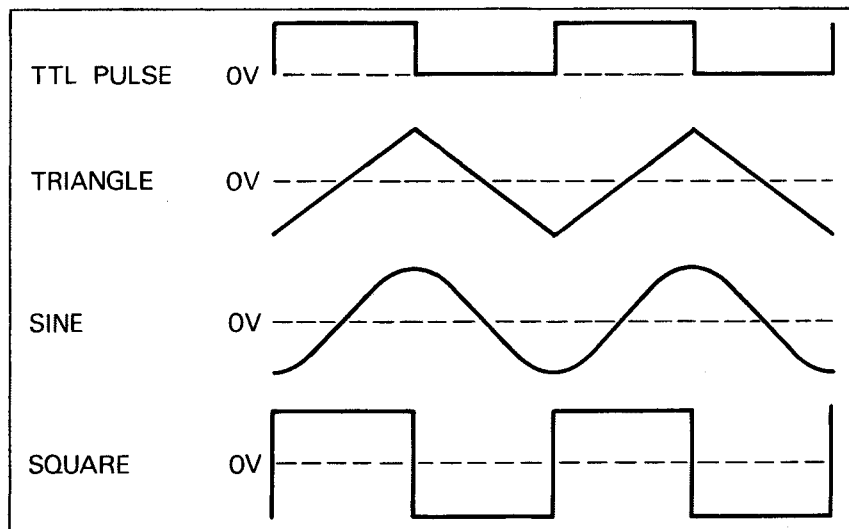

Fig. 3. Output waveform and phase relationships.
1. With the unit plugged into a power source, depress the **POWER** button (1).
2. Select the frequency range desired by depressing the appropriate **RANGE** switch. The frequency range obtained as the **FREQUENCY** dial (6) is varied will be from one-tenth the indicated **RANGE** value to 10 times this value. For example, select the 10 K range. When the **FREQUENCY** dial is at .1, the output frequency is 1 KHz; when at 1, it is 10 KHz and when at 10 the frequency is 100 KHz. The frequency obtained applies to the signal at the TTL jack as well as the 600 Ω **OUTPUT** jack.
3. Select the waveform desired by depressing the appropriate **FUNCTION** button. The phase relationships of the waveforms available are shown in Fig. 3.
4. The amplitude of the selected output signal at the 600 Ω **OUTPUT** jack is adjusted by **AMPLITUDE** control (4). The TTL output is not affected by the **AMPLITUDE** control.